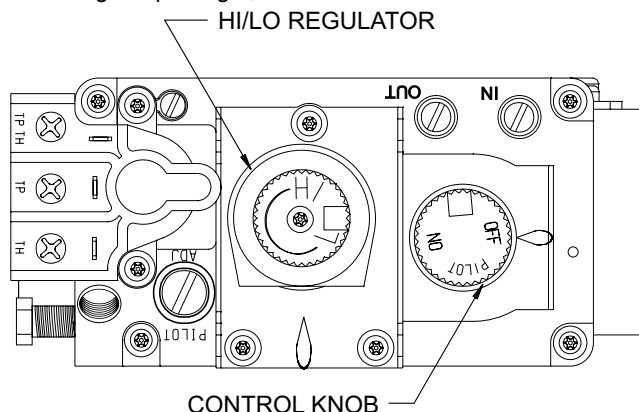

Figure 69
**NOTICE:** The gas control valve allows you to increase or decrease the height of the main burner flame. The control valve has a pressure regulator with a knob as shown in Figure 69. Rotate the knob clockwise to “HI” to increase the flame height and counterclockwise to “LO” to decrease the flame height.